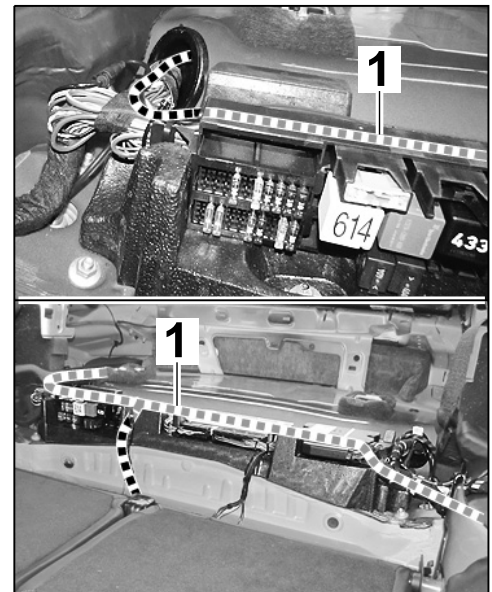

Figure 25
- 4.4.1 Route electric wire harness ⇒ *Figure 25 -1-* along wire harness in passenger compartment at the left and wire harness in passenger compartment at the right.